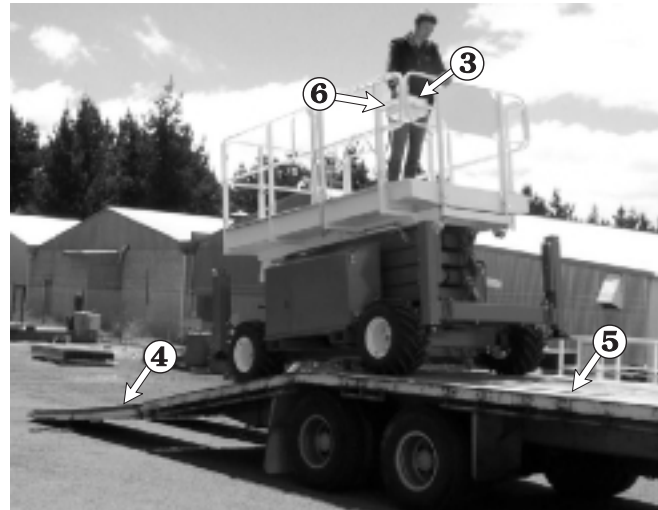

Figure 10.6
6. Use the joystick controller **3** to slowly drive the SR straight onto the ramp **4** and trailer **5** (see Figure 10.6).
7. When the SR is in place on the trailer, push the **Emergency Stop** switch **6** (see Figure 10.6) in (OFF) at the platform control box.